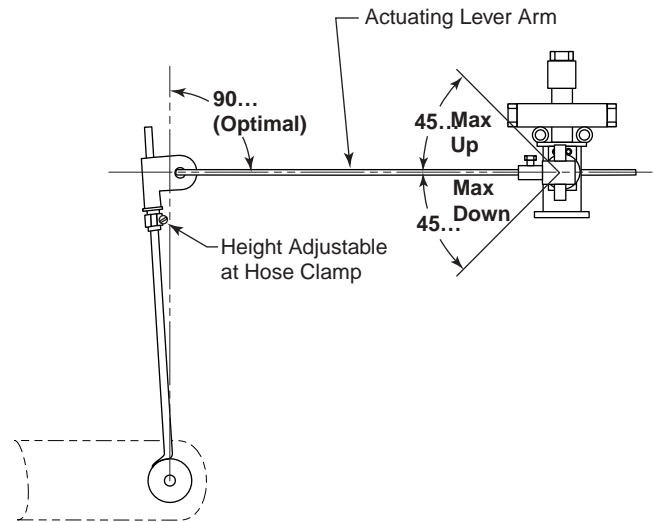

Figure 20. Height Control Valve Asm
5. Inspect automatic air control valve for proper installation. Valve should be mounted so linkage is free to operate without interference. Check all linkage connections and air fittings on valve for tightness. Refer to Figure 20.
Operation (See Figure 20)